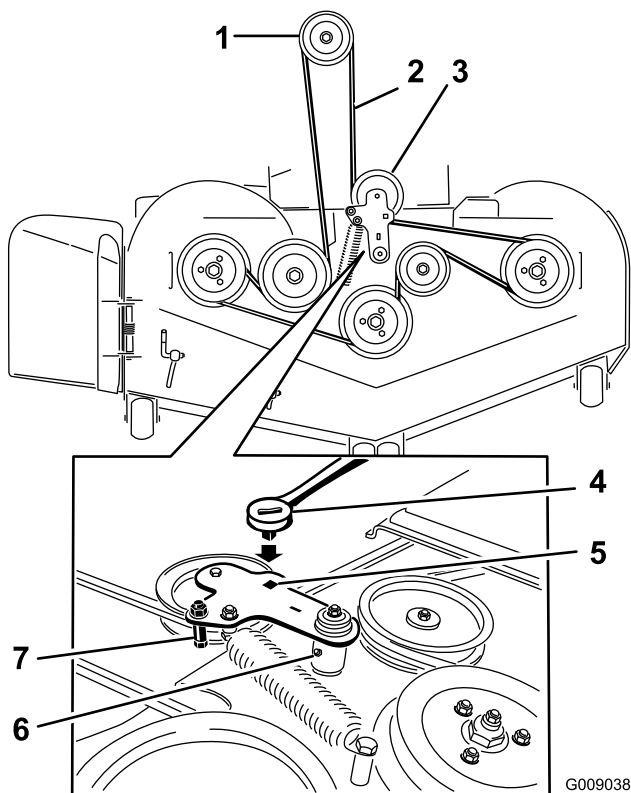

Figure 95
6. Lift up the floor pan and insert a ratchet into the square hole in the deck idler (Figure 95).
7. Rotate the deck idler clockwise and remove the mower belt (Figure 95).